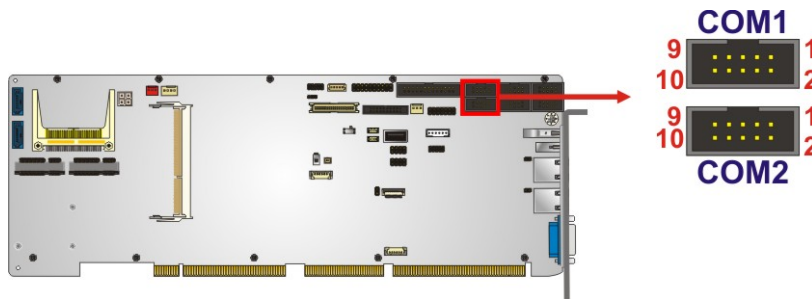

Figure 3-23: RS-232/422/485 Connector Locations
- CN Location:** See **Figure 3-23**